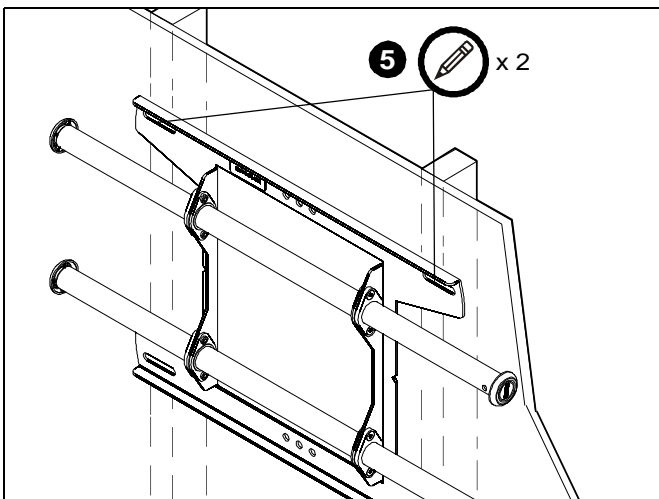

Figure 2
- Using a level, mark the wall on each stud to attach the mount through the upper mounting slots. (See Figure 2)